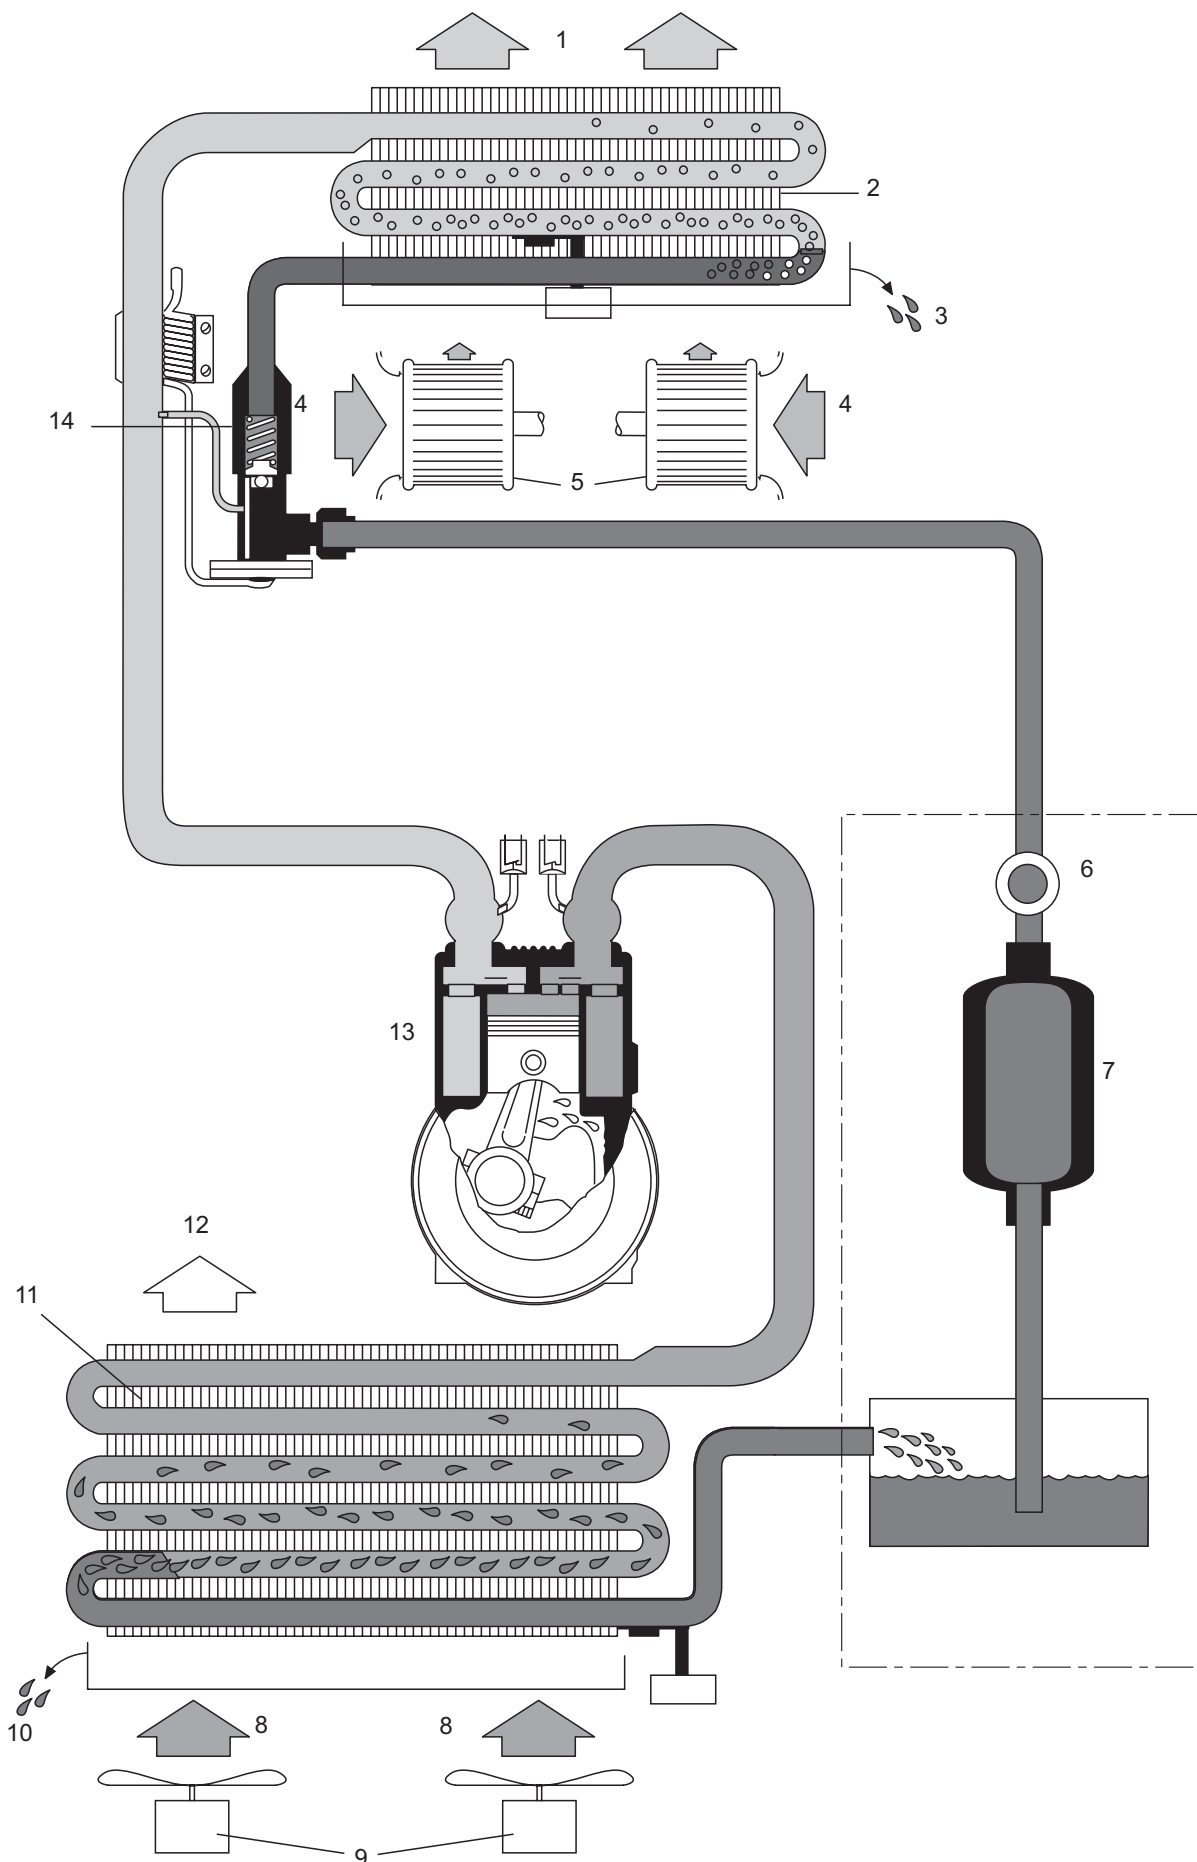

Fig. 206 Functional schematic
When the air-conditioning system is switched on via the ON / OFF rocker switch, the compressor (13, Fig. 206) engages via the magnetic clutch and is driven by the V-belt of the vehicle engine. The compressor compresses the refrigerant gas and supplies it to the condenser (11), where the gas condenses and dissipates heat.